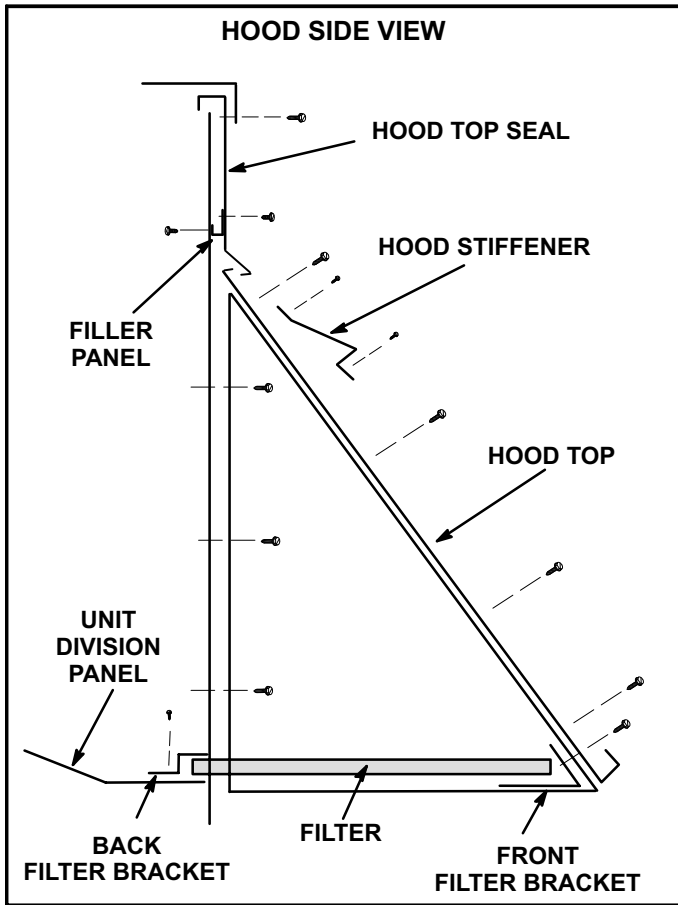

FIGURE 5
- 6- Align back filter bracket with holes in unit division panel. See figure 5. Secure with sheet metal screws.
- 8- Position hood top lip under top seal and slide hood assembly into place. See detail in figure 5. Secure intake hood sides to unit using screws provided.